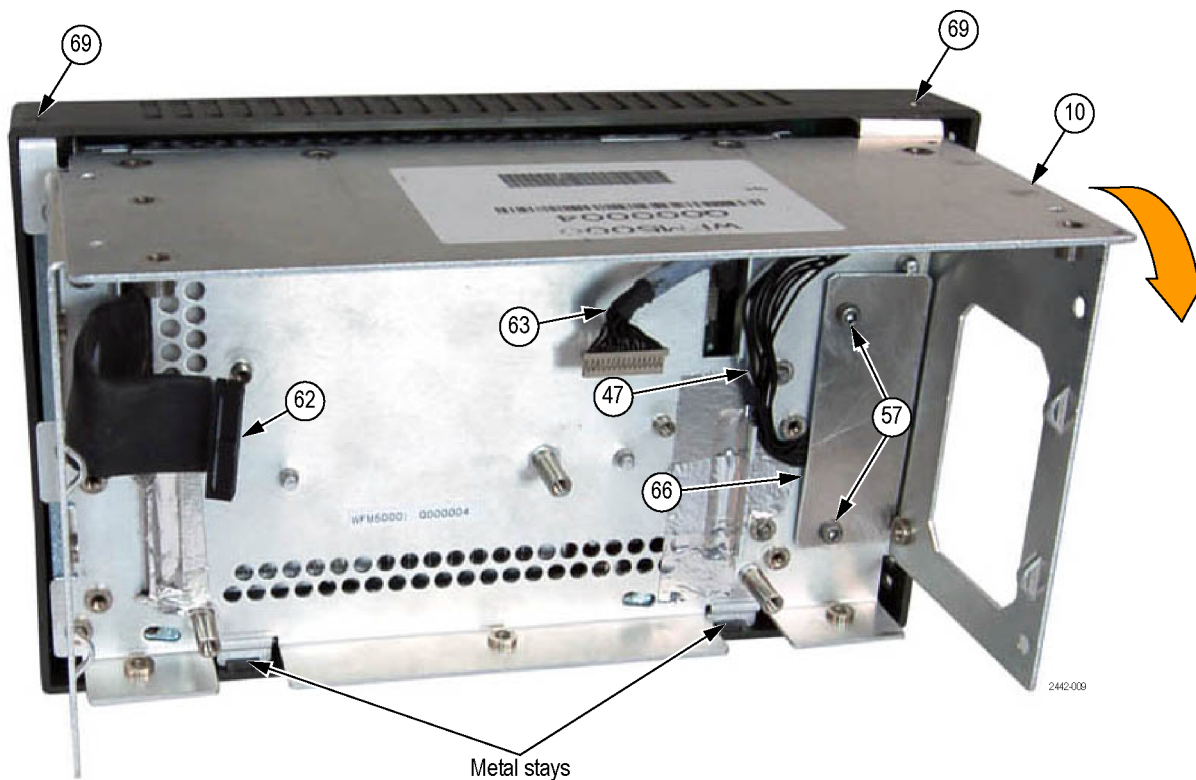

Figure 13: Front panel assembly removal
Remove the front panel board and LCD assembly as a unit. To do so, perform the following procedure. (See Figure 13.)
5. Pull the main chassis toward you and down, clearing the metal stays located at the top of the bezel (which should now be facing down). (See Figure 13.)